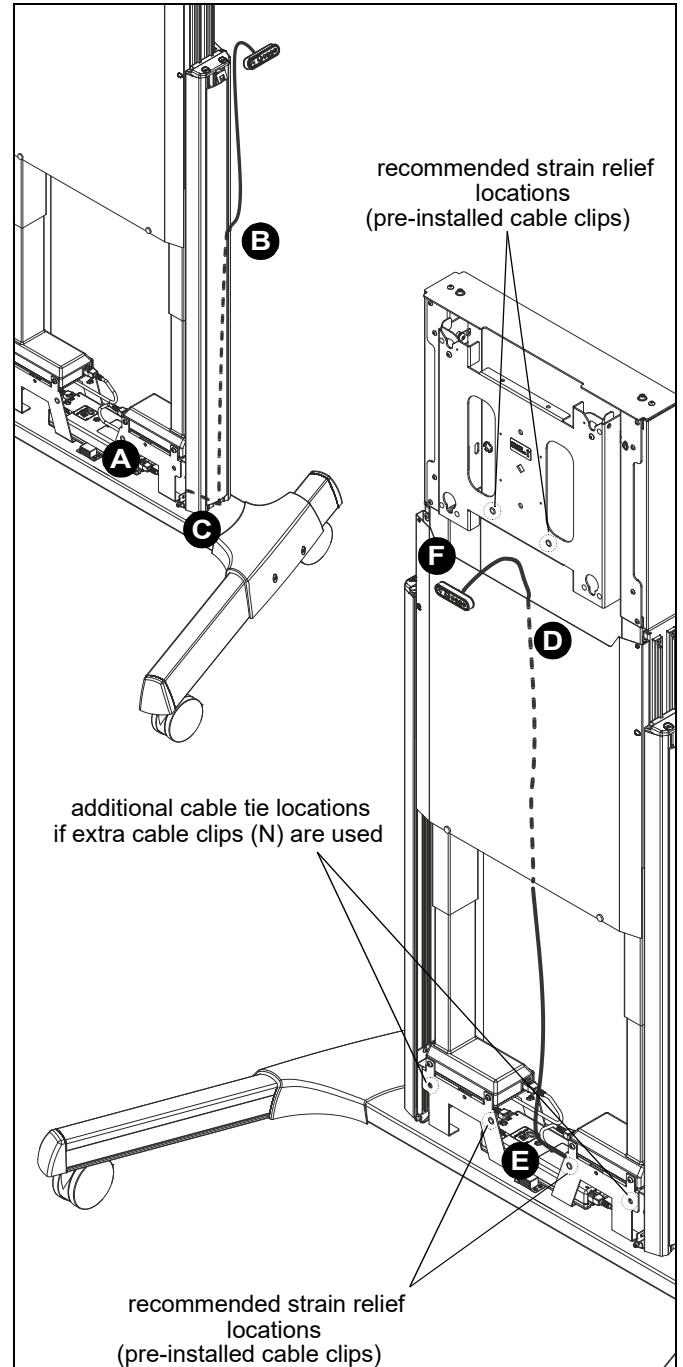

Figure 11
22. (Optional) Relocate control pad to the front center of display if desired following these steps. (See Figure 11)
- F. Use double-sided foam tape (U) to attach control pad to bottom of display in the center.